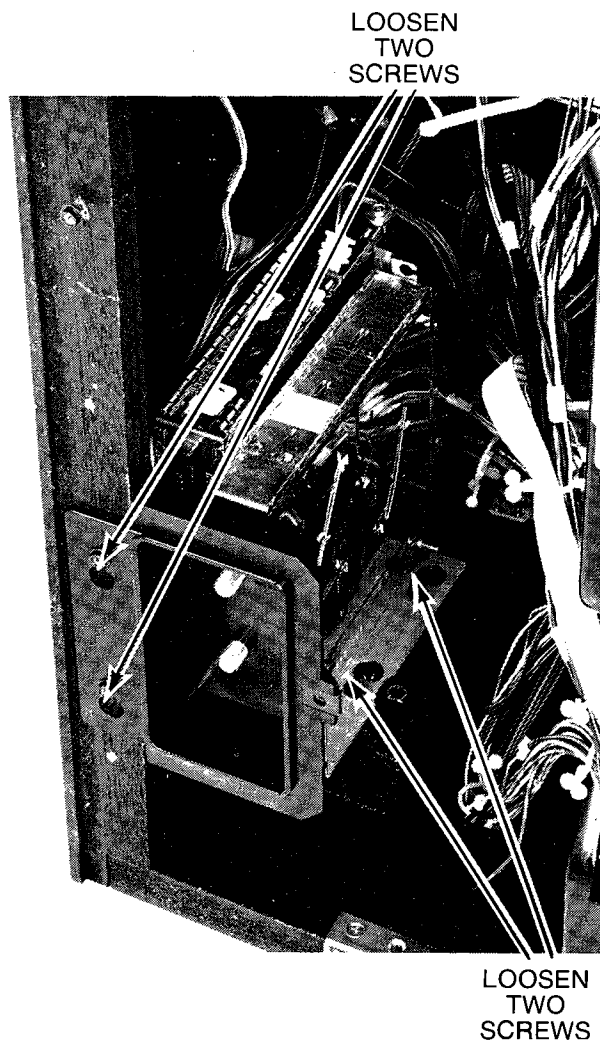

Fig. 15a — Tuner and Tuner Control Assembly
1. Loosen two (2) screws holding tuner and antenna plate to cabinet (Fig. 15a).
2. Loosen two (2) screws holding assembly to cabinet floor (Fig. 15a).